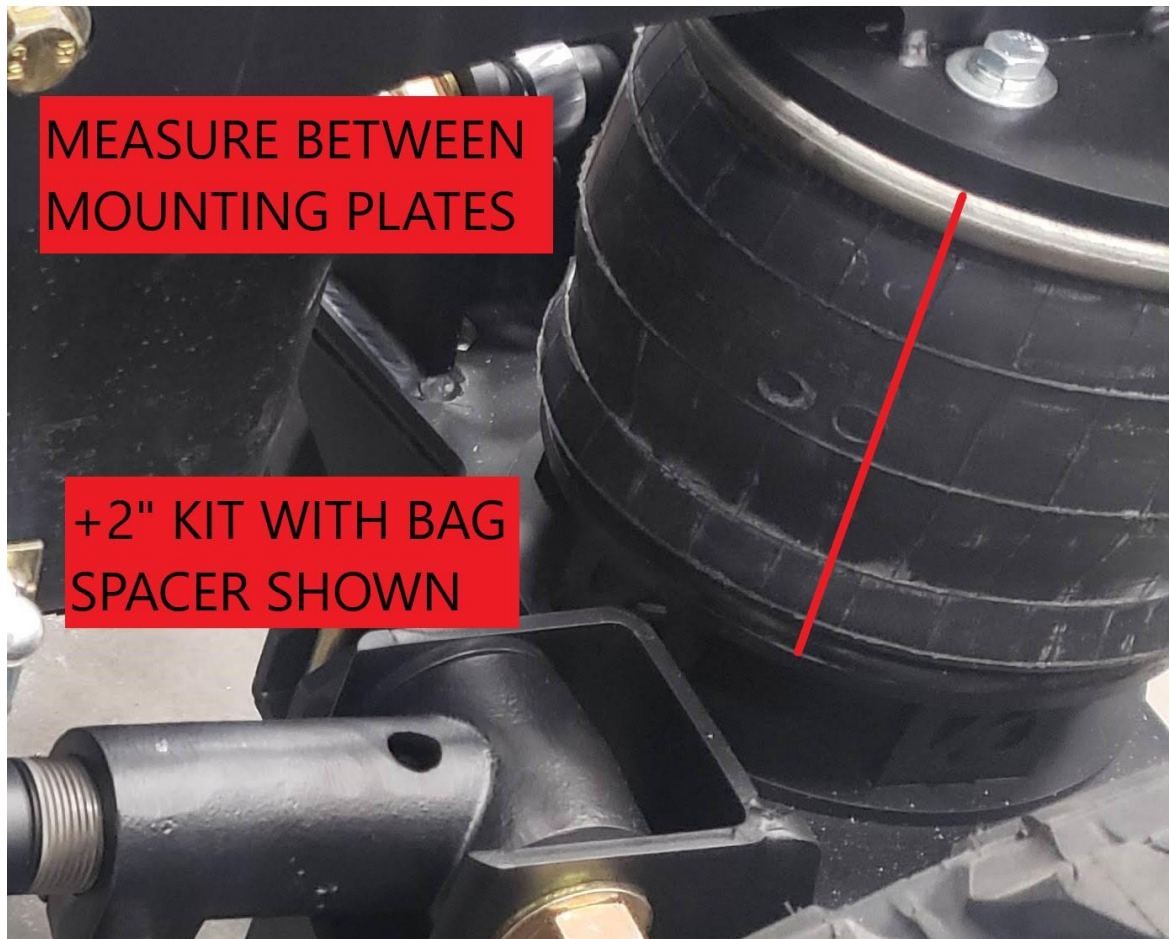

Figure 30
- 18:** Once the kit is installed, inflate the airbags to 7 ½" this is where the airbag rides the best. Measure off of the front axle ball joints to make sure that the axle is square with the front. See figure 30.